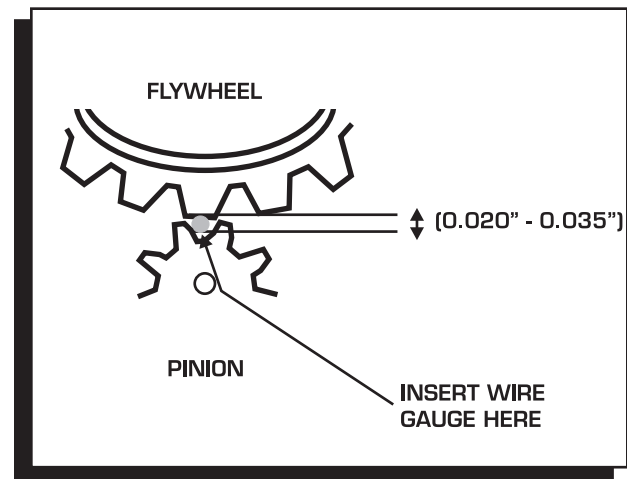

Figure 4 Checking Gear Mesh.
5. To check the pinion gear mesh, gently pry the gear out to engage to the ring gear. (Sometimes the pinion will not retract. This is normal.) Insert a wire gauge as shown in Figure 4. As a gauge, a standard 1.25" paperclip could be used as they generally are about .035" in diameter. There should be .020"-.035" clearance between the ring gear tooth and the pinion gear. The gear mesh is not adjustable on this application. Verify that all parts are correct for the application (flywheel, block plate, starter) and verify starter is mounted correctly to engine plate.